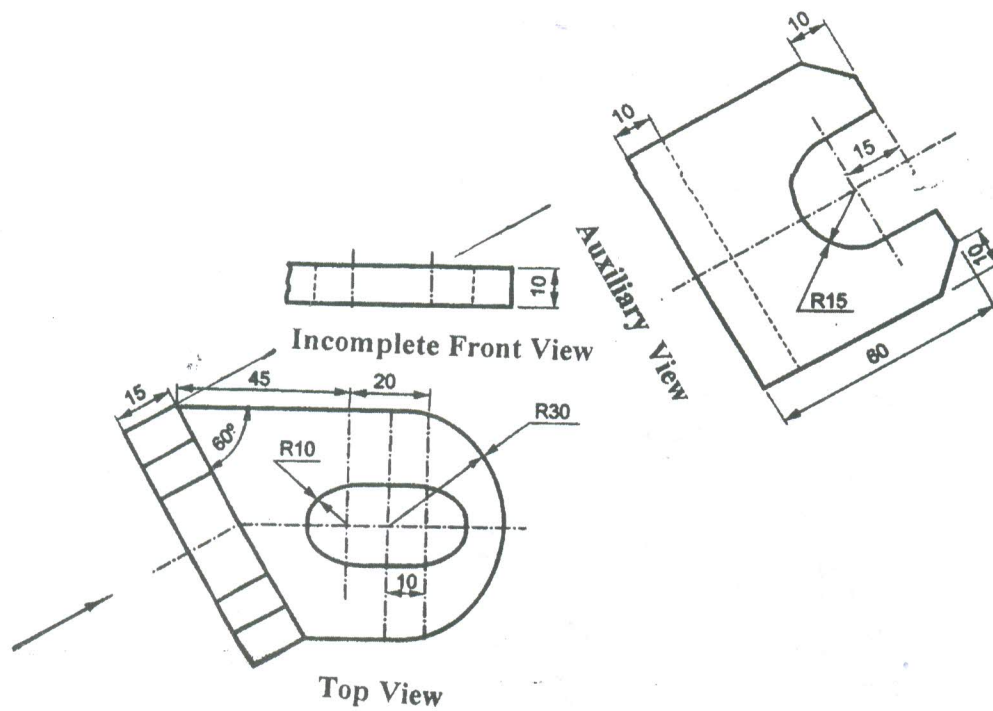

Fig. 3
5. Fig. 3 shows Incomplete Front View, Top View and Auxiliary View of an object :